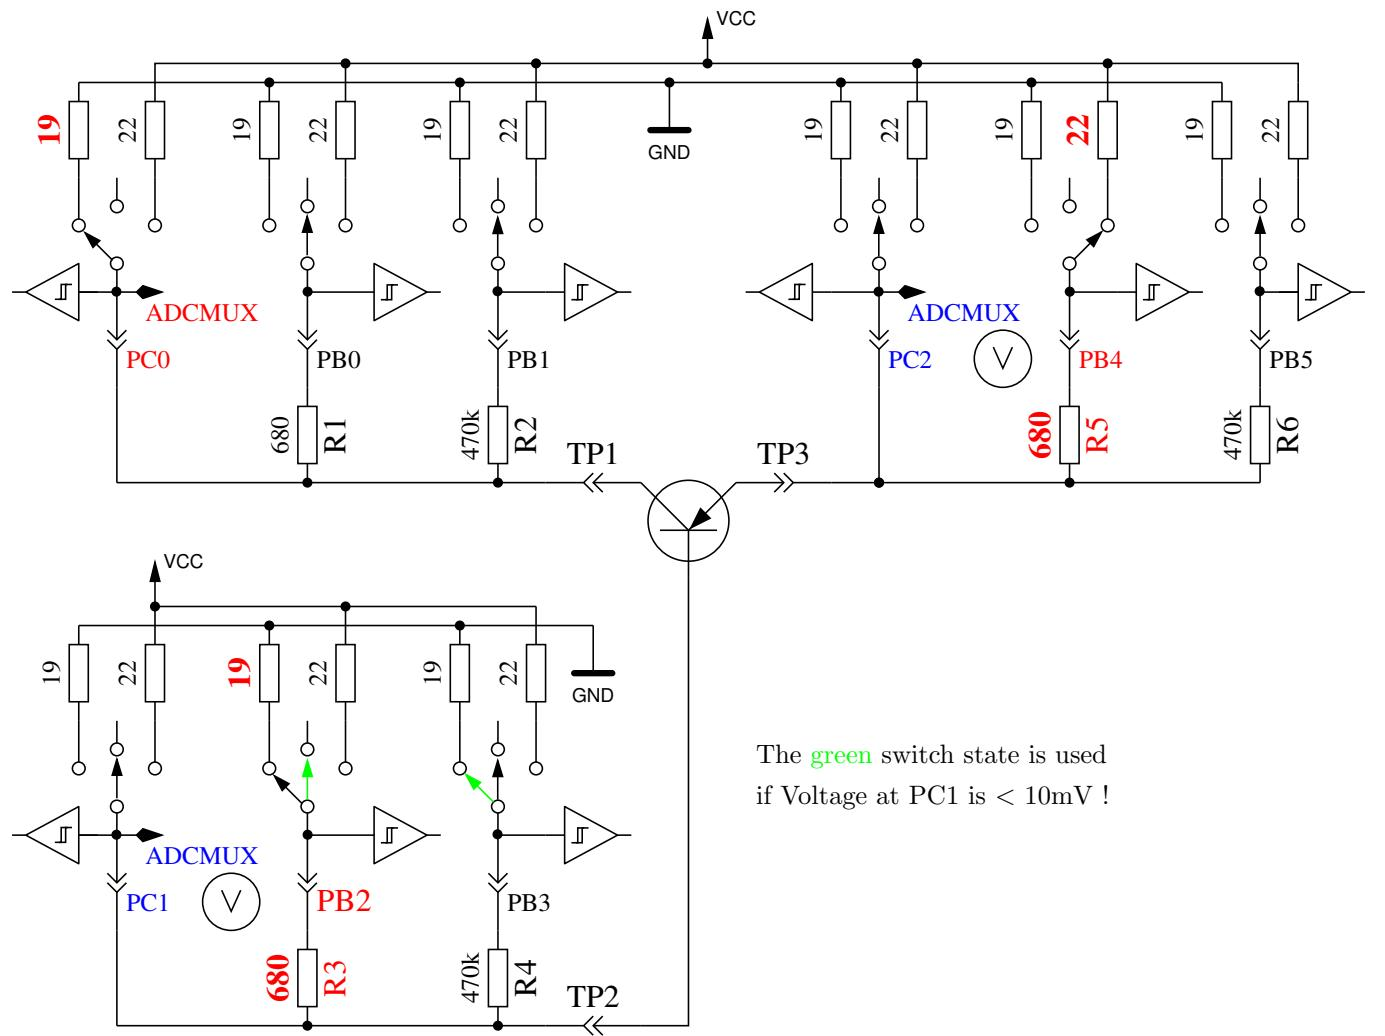

Figure 5.4. hFE measurement of PNP transistor with common collector circuit
First the current amplification factor is measured with common collector (emitter follower) for the assumed PNP transistor. The measuring situation is shown in figure 5.4. If the measured voltage at the Base (UB) is above 9 mV with the 680Ω resistor, the hFE is build as $hFE = \frac{UE - UB}{UB}$. The voltage UE is the difference of the Emitter-voltage to VCC. The difference between the 22Ω and 19Ω resistors are not respected. If the UB voltage is below 10 mV, the measurement is done with the $470 k\Omega$ resistor at the base. In this case the current amplification factor is build as $hFE = \frac{UE \cdot 470000}{UB \cdot (680 + 22)}$.